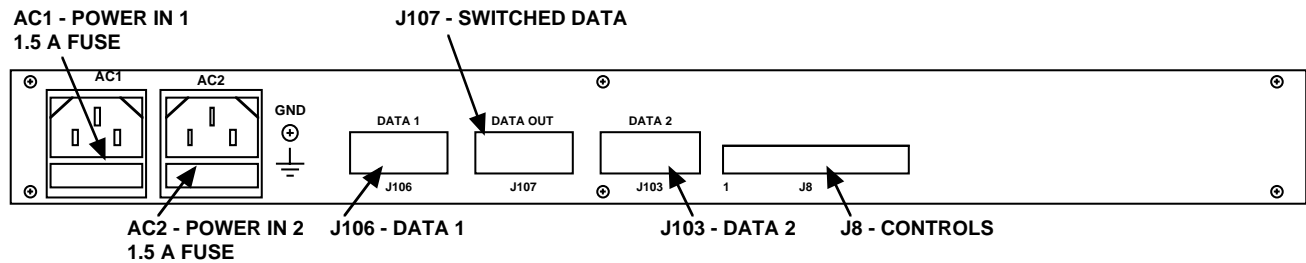

FIGURE 2.0 1582-03 REAR PANEL
J8 - MONITORS AND CONTROLS CONNECTOR (FIGURE 2.0)
3. Connect to signals on the MONITORS AND CONTROLS connector, J8, as desired (see Figure 2.0, Table 2.0)